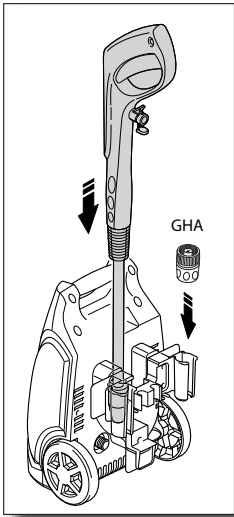

Fig. 22
- The GHA should be stored in the accessory holder when your unit is not in use to prevent loss or damage (Fig.22).